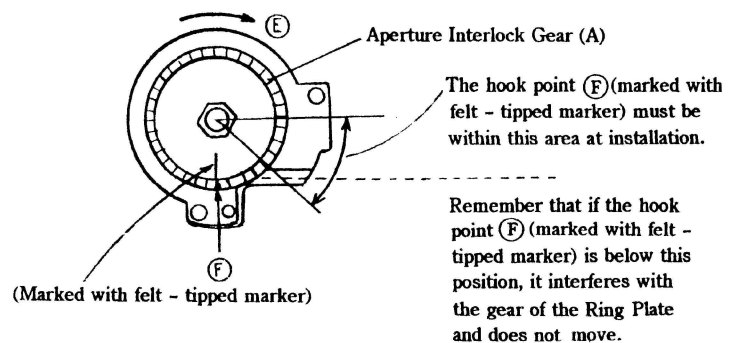

Fig. 36
- 4) Turn the hook point (F) (marked with a felt - tipped marker) of the spiral spring on the Aperture Interlock Gear (A) of the Aperture Code Ass'y (1AMG0600) by about 300 degrees in the direction of the arrow (E). With the hook point in this position, install the Aperture Code Ass'y in the Mirror Box and tighten the Aperture Code Ass'y Setscrews (61913026)  $\times$  2. (See Fig. 36)